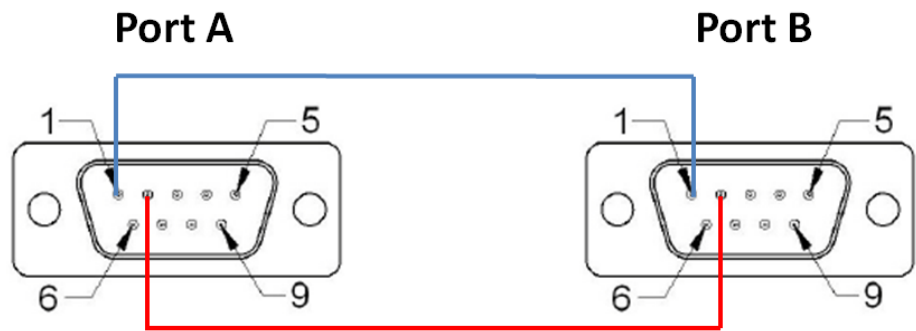

Figure 2. Connect with DATA+ & DATA- of Port A & Port B.
3. Choose two of all Advantech com port, then connect with each DATA+,- pin as Figure 2: